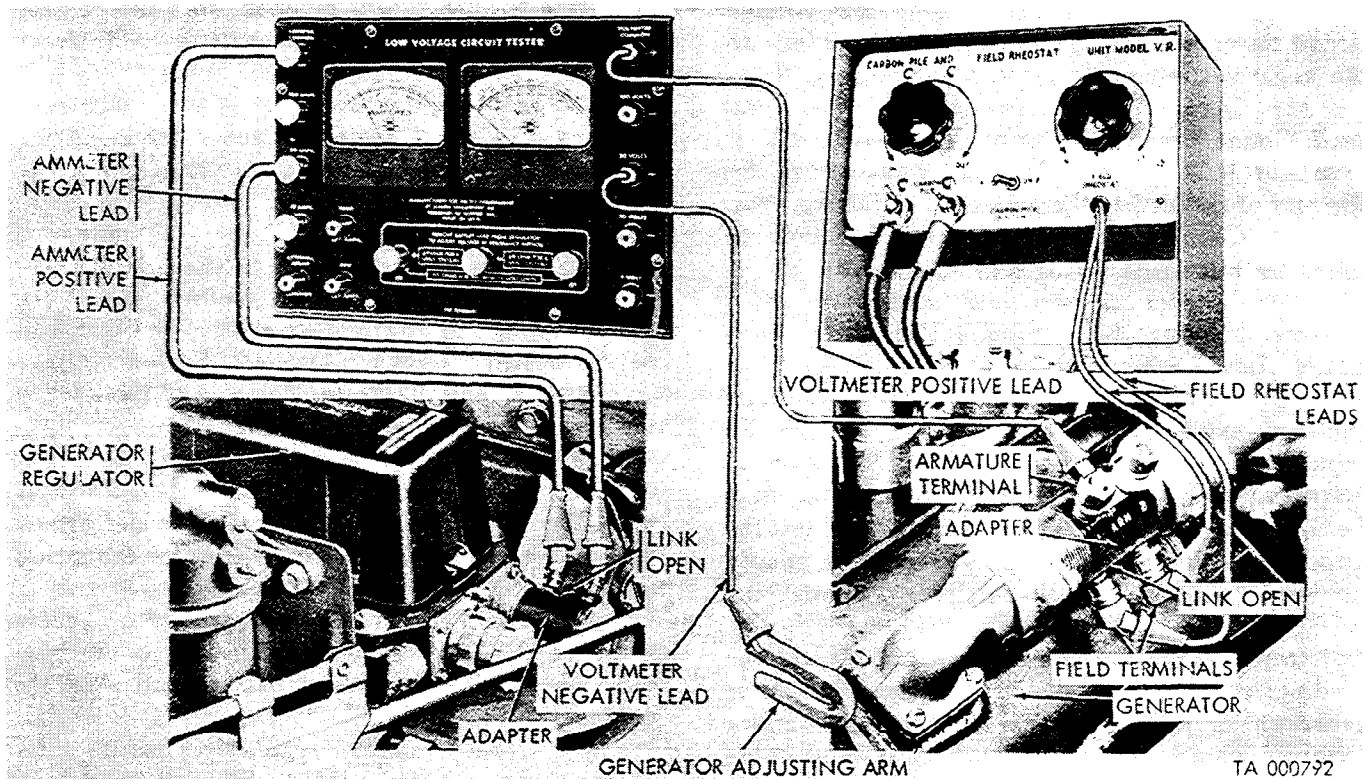

Figure 2-36. Checking circuit breaker unit.
(7) *Read voltmeter.* Repeat (6) above three or four times, then increase engine speed to the equivalent of 20 mph and read the voltage on the lower scale of the voltmeter. Voltage reading should be from 27 to 28 volts for hot climate or summer months, and 28 to 29 volts for cold climates or winter months.
(9) *Remove testing equipment.* After completing the test, remove the testing equipment (e(12) above) and connect the cable to the generator regulator rear receptacle.
i. Check Circuit Breaker Unit Closing Voltage (Fig. 2-36). The circuit breaker unit check is to determine whether the circuit breaker unit in the generator regulator functions properly. In order to obtain an accurate diagnosis of circuit breaker unit performance, the generator voltage regulator must be functioning properly (h above).